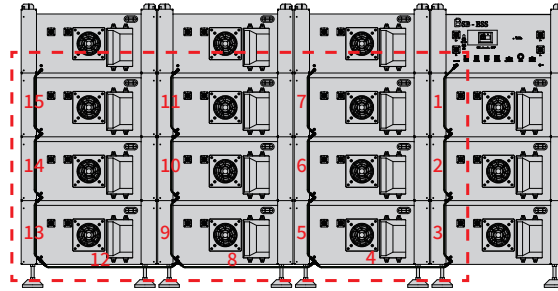

Figure 9
Step 1: Connect the ground wire from high-voltage box to battery packs in numerical order, as shown in Figure 9.